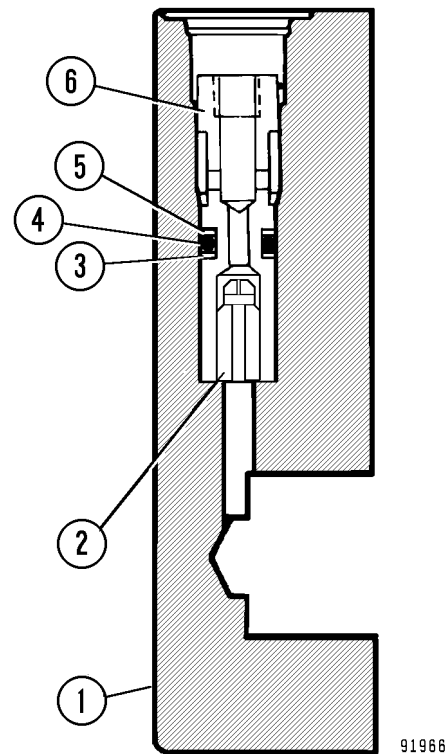

FIGURE 8-6. RESTRICTOR POPPET REMOVAL
3. Remove capscrews (1) and cover (2). Remove springs (3 & 5) and main relief valve (4). Remove sleeve (6), low pressure relief (7) and O-rings (8). The main relief valve (4) is factory preset at 2500 psi (17,238 kPa). Replace only as a complete assembly. If adjustment is necessary, refer to "Checking Hoist System Pressure Relief Valve" later in this section.
NOTE: If restrictor poppet removal in cover (2) is required, refer to step 4 and Figure 8-6.
4. Remove sleeve (6, Figure 8-6), backup ring (5), O-ring (4), and backup ring (3). Remove restrictor poppet (2).